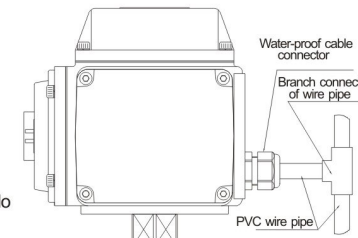
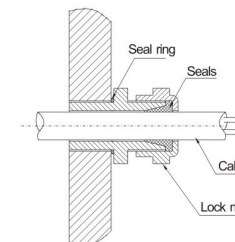

Fig. 1
Fig. 2
- When the pipe for wire is used, please install according to the requirement of Fig. 1.
- ① Outer diameter of wire pipe is Φ9~Φ11.
- ② Waterproof shall be fully adopted.
- ③ The electric actuator shall be allocated higher than the pipe, so water in the pipe will not flow into the actuator to damage the unit.
- The outer diameter of the cable shall be Φ9 - Φ11, refer to Fig. 2. No cable, which is not fit to the inner diameter of cable connector, is allowed to use, in particular, the multi-single wire can not be used to replace the cable. Otherwise, water may enter into the actuator to corrupt the parts inside actuator and damage the insulation, and cause the actuator seriously damaged.